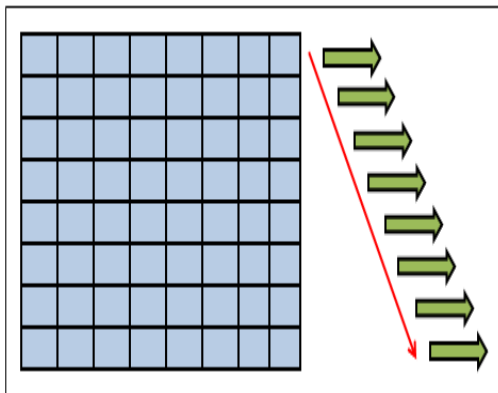

Figure 11-16 Top to bottom readout
- Top to bottom readout (Figure 11-16): The data is readout from the top to the bottom line.